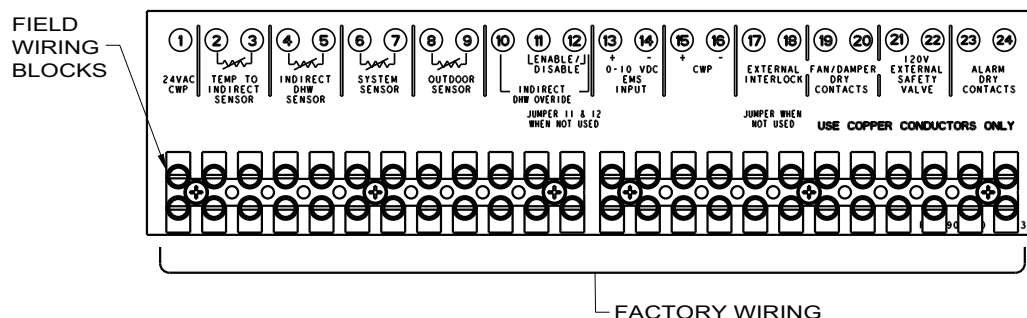

Fig. 29: Low Voltage Field Wiring
2. If using an Outdoor Sensor (option B-32), connect the sensor wires to the terminals marked OUTDOOR SENSOR (see Fig. 29). Caution should be used to ensure neither of these terminals becomes connected to ground.